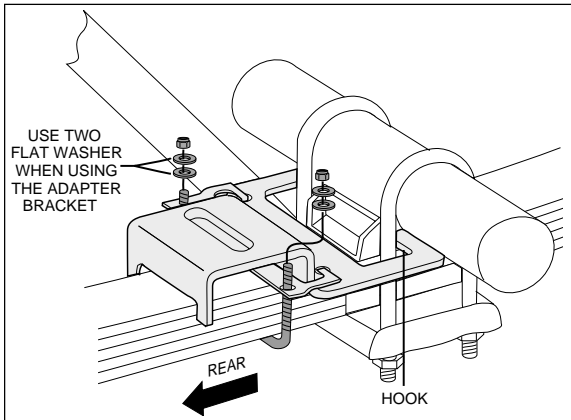

Figure 3
3. For 2WD models: The lower bracket must be turned so that the finger portion of the bracket it is located around the vehicle U-bolt (Figure 3).
- a. Use the provided adapter bracket to mount kit behind the axle only on the side where the shock is next to the assembly. No adapter is needed when the shock is on the opposite side of the axle (Figures 3 & 4).